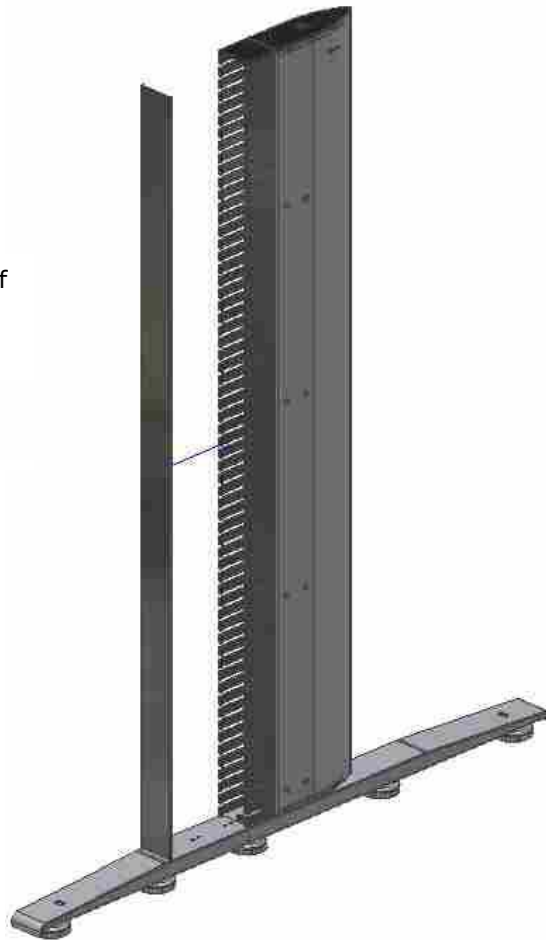

Fig 7
STEP 4 – Replace the cut section of the PVC cover on the **vertical wiring duct** of the **base side** (Fig. 7).